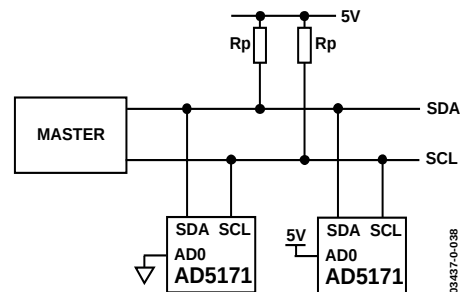

Figure 39. Two AD5171 Devices on One Bus
1. The master initiates data transfer by establishing a start condition, which is when SDA goes from high-to-low while SCL is high (Figure 36 and Figure 37). The following byte is the slave address byte, which consists of the 6 MSBs as a slave address defined as 010110. The next bit is AD0, which is an I²C device address bit. Depending on the states of their AD0 bits, two AD5171 can be addressed on the same bus (Figure 39). The last LSB is the R/W bit, which determines whether data is read from or written to the slave device.
Figure 39 shows two AD5171 devices on the same serial bus. Each has a different slave address since the state of each AD0 pin is different. This allows each device to be operated independently. The master device output bus line drivers are open-drain pull-downs in a fully I²C compatible interface.